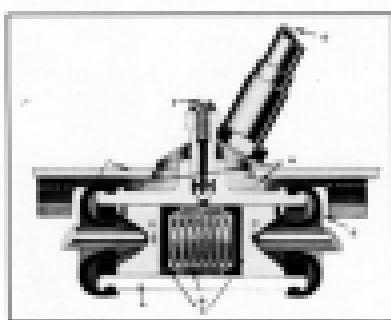

Fig. 170. Front Wheel Cylinder Details
The wheel cylinder, Fig. 170, composed of casting "A", return spring and caps "C", piston "D", boots "E", and bleed screw "F", is of the double piston type. Fluid enters the cylinder through the inlet "G". Casting "A" is anchored at "H" to the brake backing plate. Pistons "D" are connected to the brake shoes by means of links. Introduction of fluid into the cylinder causes the pistons to move in opposite directions, thus forcing the shoes into contact with the brake drum. Pressure cannot be built in the system until all shoes are in contact with their drums.
1. Remove screw "T" from end of bleeder connection, Fig. 170, and attach bleeder drain, Fig. 171. Allow tube to hang into clean container, such as a pint measuring jar.